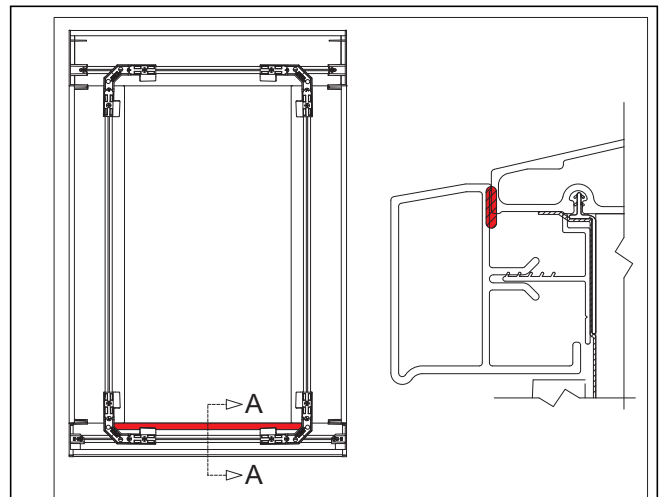

Figure 39
4. Apply a 3/16" (5) bead of clear grade NS class 25 sealant to the sill piece near the bump in the profile the length of the part, on the interior of the casing as shown in *figure 39*.